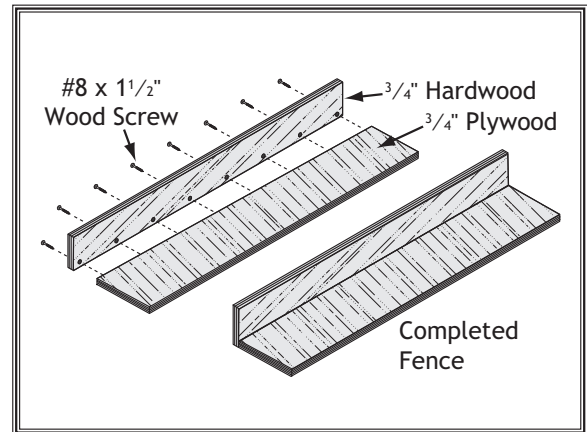

Figure 88. Location of pilot holes.
2. Pre-drill and countersink eight pilot holes $\frac{3}{8}$ " from bottom of 3" wide board, then secure boards together with (8) #8 x $1\frac{1}{2}$ " wood screws, as shown in **Figure 88**.